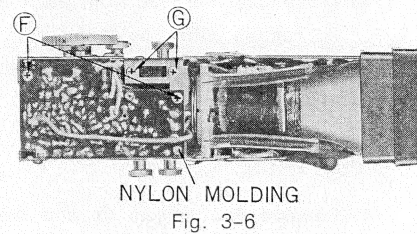

Fig. 3-6
- 2) Remove the two screws ⑯ shown in Fig. 3-6
- 3) Remove the two screws ③ shown in Fig. 3-6 and take the channel selector switch off the chassis.